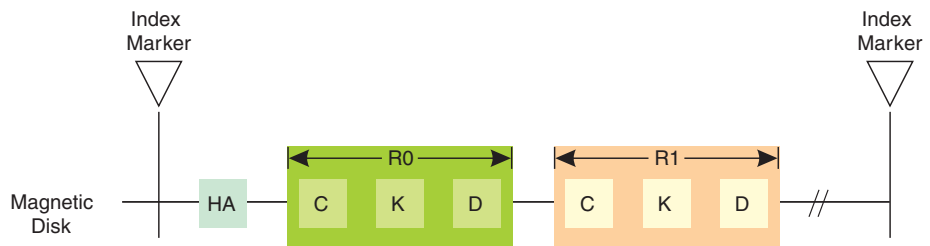

Figure 12 Track format for 3390 DASD
All Symmetrix systems support the count-key-data (CKD) and extended count-key-data (ECKD) format used by IBM 3390 and 3380 DASD. For a full description of the channel command words (CCW) supported, refer to the *IBM 3390 Storage Control Reference*. Figure 12 on page 73 shows the CKD track format emulated for 3390 and 3380 DASD.
All tracks are written with formatted records. The start and end of each track are defined by the index marker. Each track has the same basic format as that shown in Figure 12 on page 73. That is, it has an index marker, home address (HA), record zero (R0), and one or more data records (R1 through Rn). These track formats are discussed in the following sections.
Index marker — An index marker indicates the physical beginning and end of each track for each disk device (Figure 12 on page 73).